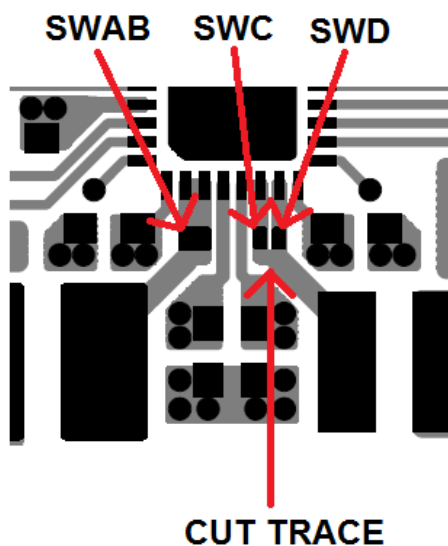
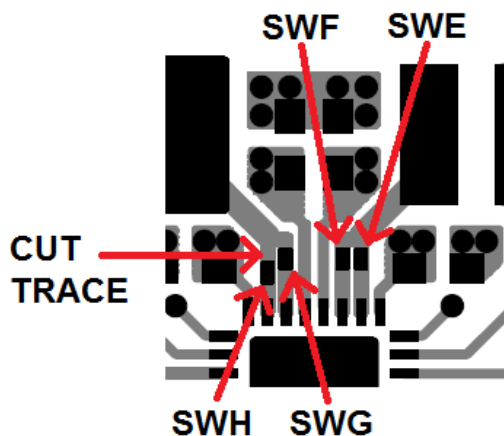

Figure 5. Cut SWC and SWD connection near pins
Figure 6. Cut SWH trace between L4 and SWH pin
4. Any switch node associated with a V_{IN} trace that was cut will also need to be cut. The SWC/SWD traces and SWD/SWF traces can be cut in between to pads near the SW pins as shown in Figure 5. The SWG/SWH traces only need to be cut for the “4112” configuration. SWH needs to be cut between the SWH pin and L4 as shown in Figure 6.
6. All switch nodes of adjoining power stages will need to be connected together. Each power stage has a pad to solder a small bus wire, 28AWG. The switch node pads are also shown in Figure 5 and Figure 6. Carefully solder a bus wire as short as possible between adjoining power stages.